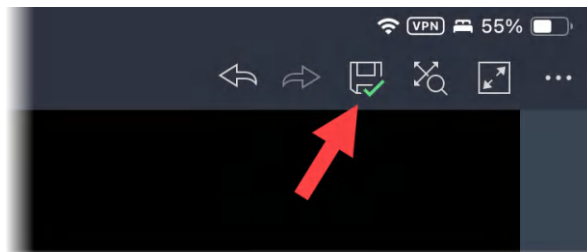

Figure 16.20: The Save icon in the AutoCAD mobile application
13. Make sure the drawing file is saved using the **Save** icon (top-right of the iPad screen), as shown in *Figure 16.20*. It will display a green checkmark to show that it has been successfully saved to the cloud.